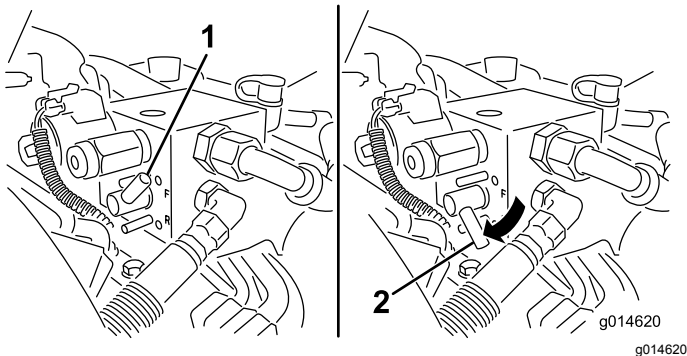

Figure 53
5. Rotate the backlap lever to the Reverse (R) position (Figure 53).